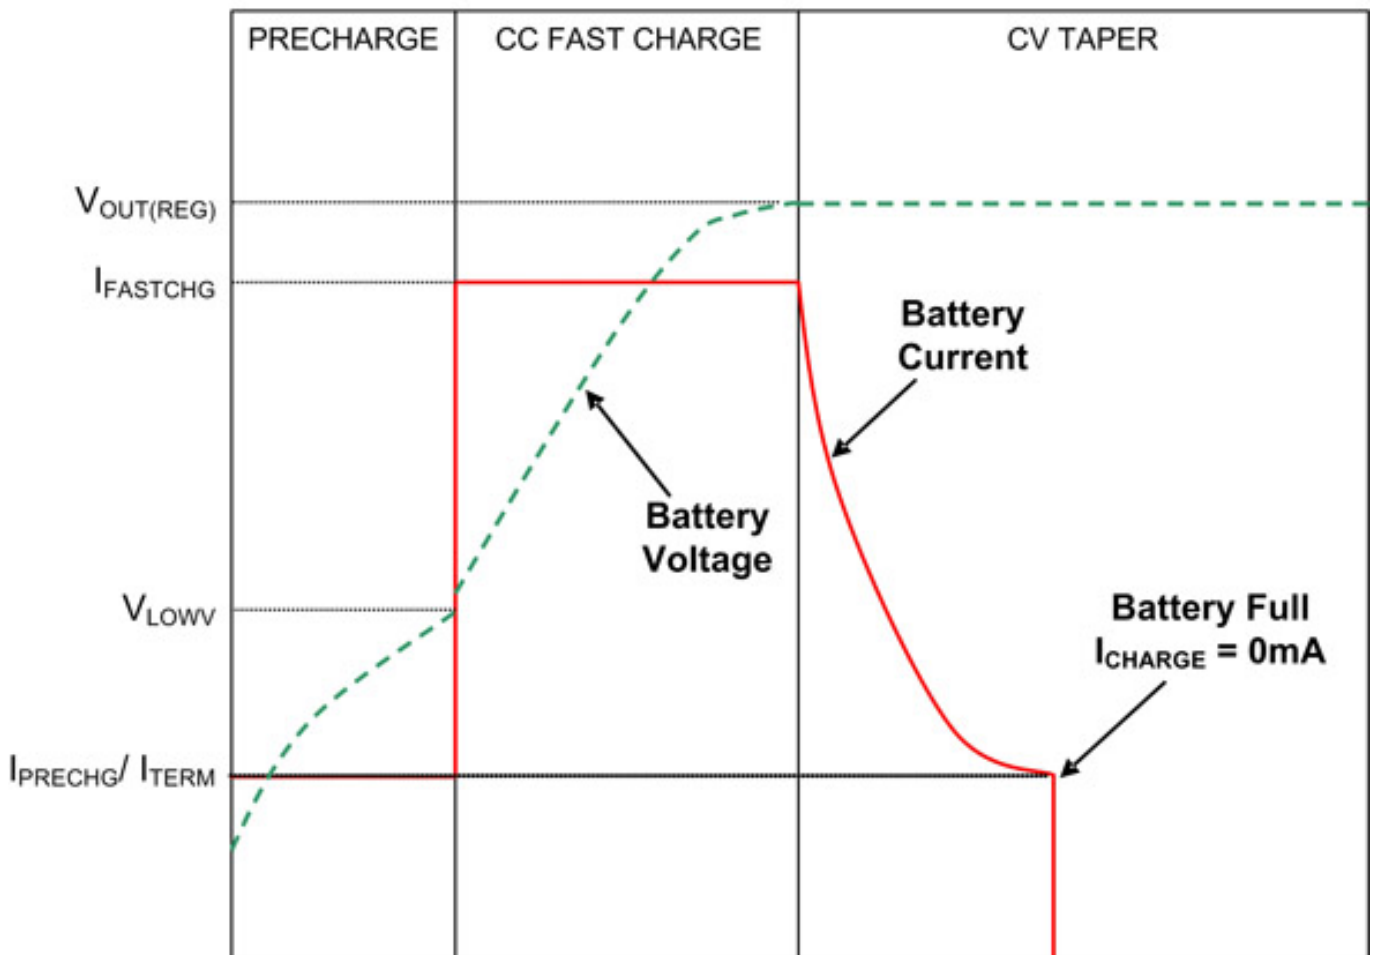

Figure 1. A typical Li-Ion charge cycle.
Li-Ion batteries require a specialized charge cycle for safe charging and to maximize the lifetime of the cell. The battery is charged in two stages: constant current (CC), and constant voltage (CV). When the battery is below the full charge voltage, the current is regulated into the battery. In CC mode, the current is regulated to one of two values. If the battery voltage is very low, the charge current is reduced to a pre-charge level to condition the cell and prevent cell damage. This threshold differs with chemistry and is typically determined by the cell manufacturer. Once the cell voltage rises above the pre-charge threshold, the charge increases to the fast charge current level. The maximum suggested fast charge current for typical cells is 1C (C = current it takes to drain the battery in one hour), but this current is also determined by the battery cell manufacturer. The typical charge current is  $\sim 0.8C$  in order to maximize the lifetime of the cell. As the battery is charged, the voltage rises. Once the cell voltage rises to the regulation voltage (typically 4.2 V), the charge current tapers down and the cell voltage is regulated in order to prevent overcharge. In this mode, the current tapers off as the cell is charged and the battery impedance reduces. Once the current drops to a predetermined level (typically 10 percent of the fast charge current), the charge is terminated. Li-Ion batteries are not typically float-charged because it reduces the lifetime of the cell. Figure 1 graphically shows a typical charge cycle.